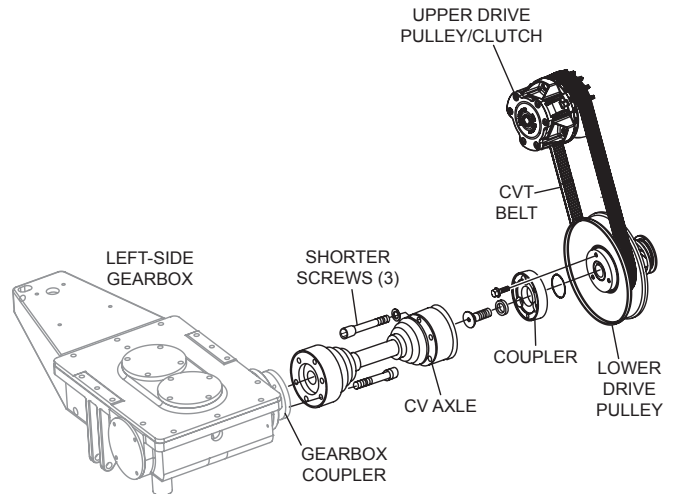

Figure 34. Remove Left-Side CV Axle
2. Disconnect the left-side CV axle from the left-side gearbox and the lower drive pulley coupler. See Figure 34.